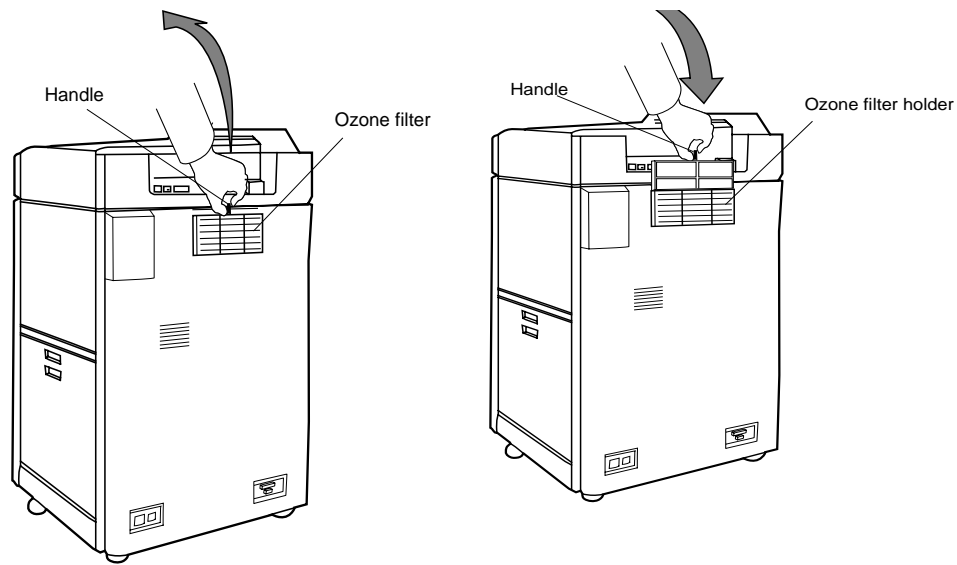

Figure 4-21 Replacing the Ozone Filter
2. Remove the used filter from the filter holder and install the new one, as shown in Figure 4-21.